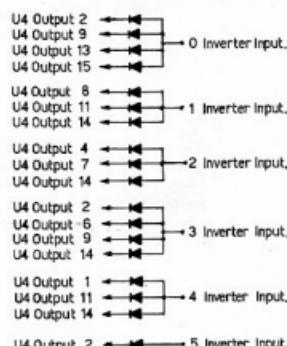

FIG.5. DIODE CONNECTIONS FOR DE VK2AHM
- (b) **Figure 5 — Unit B — Page 18 — AR August 1975:**
In Fig 5,